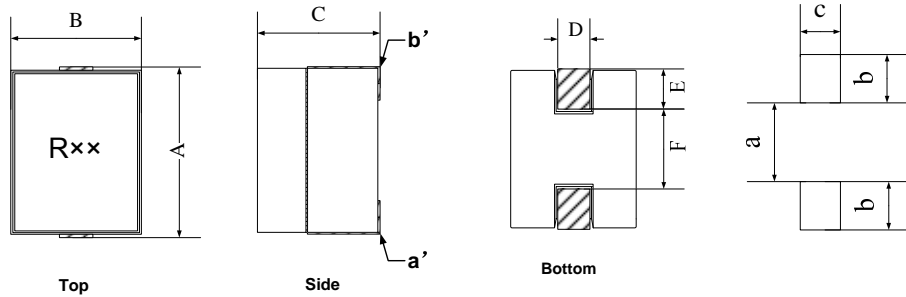

Fig.3-1
Dimensions and recommended PCB pattern for reflow soldering, please refer to Fig.3-1 and Table 3-1.
- ※6: Nominal DCR is measured from point a' to point b'. (refer to Fig. 3-1)